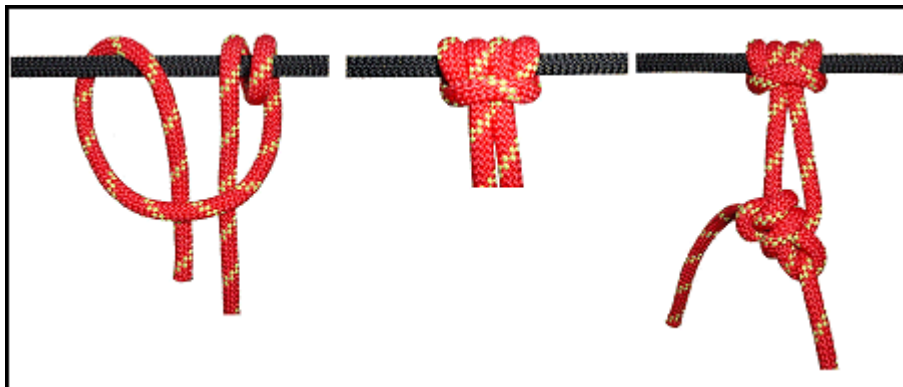

Figure 4-21. End-of-the-rope Prusik knot.
(2) *End-of-the-Rope Prusik* (Figure 4-21).